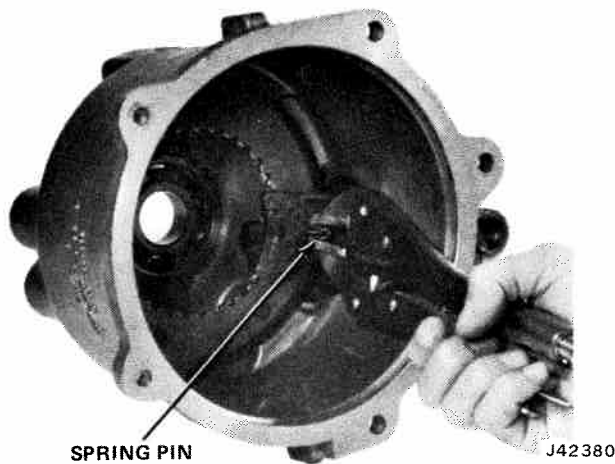
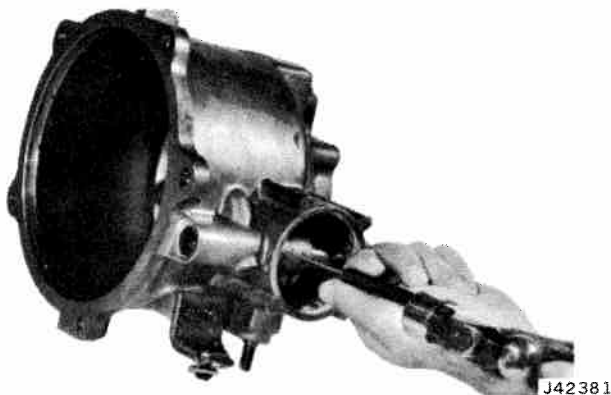

Fig. 8-29 Removing Shift Fork Locating Spring Pin
Fig. 8-30 Removing Spring Pin
- (1) Remove shift fork locating spring pin by pulling and rotating with pliers (fig. 8-29).
- (2) Remove large expansion plug.
- (3) Remove shift rail taper plugs.
- (4) Remove control lever from shift lever assembly.
- (5) Use a 3/16-pin punch and drive spring pin from shift fork and shift rail (fig. 8-30)
- (6) Slide shift rail forward out of shift fork. Remove shift fork.
- (7) Remove shift rail poppet ball.
- (8) Drive poppet taper plug into shift rail bore and remove plug and poppet spring.
- (9) Remove shift lever retaining pin and shift lever assembly.
- (10) Remove reduction holding plate retaining snap ring and reduction holding plate.